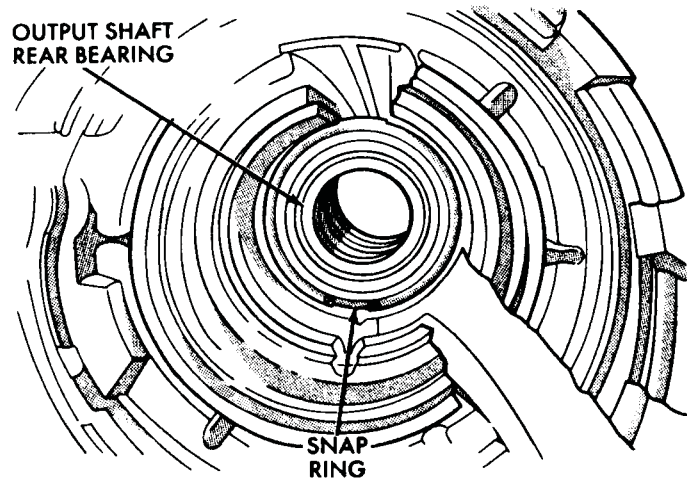

Fig. 15 Output Shaft Rear Bearing And Snap Ring Location
(16) Remove output shaft rear bearing snap ring (Fig. 15). Remove snap ring with long jaw internal type snap ring pliers. Or, rotate snap ring until one end is adjacent to notch in case. Then unseat ring with extra long flat blade screwdriver.
(17) Remove rear bearing by tapping overdrive case on wood block to dislodge bearing.